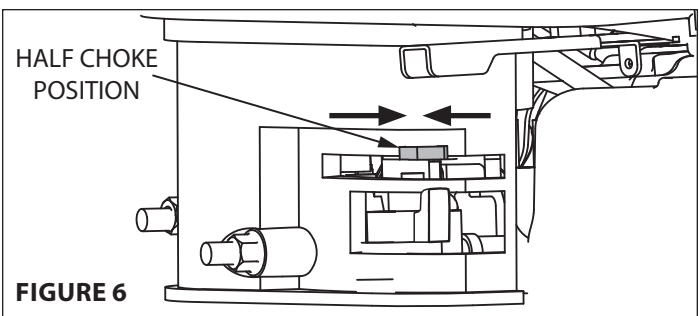

FIGURE 6
- If the engine is warm or the ambient temperature is high, move choke lever to the **HALF CHOKE** position or **RUN** position. **SEE FIGURES 6 AND 7**
7. After engine begins operating, move choke lever to **HALF CHOKE** position. **SEE FIGURE 6**